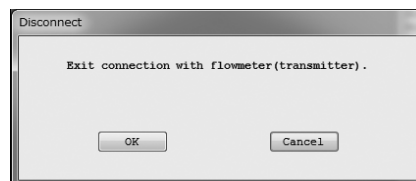

Fig.13
- ② At the message box as shown in Fig. 13, click on "OK". This brings the connection between the flowmeter and LinkTop to come to an end.
- ③ Clicking on "Cancel" abandons the process of terminating the connection.